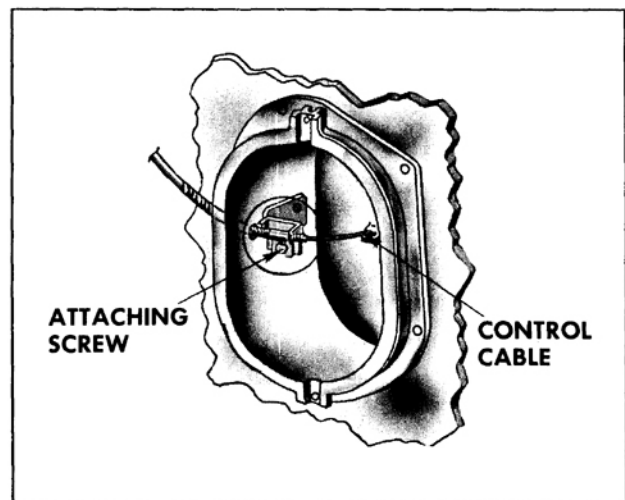

Fig. 16-313 Air Outlet Control Cable
2. Remove control cable from outlet, (Fig. 16-313). Remove or loosen necessary heater parts to allow space to remove outlet assembly.